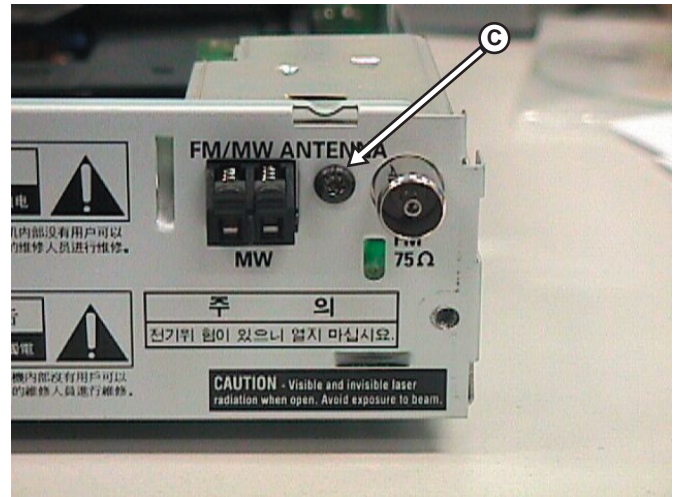

Figure 3-3
- 1) Loosen 1 screw C (See Figure 3-3) to remove the Tuner Module.